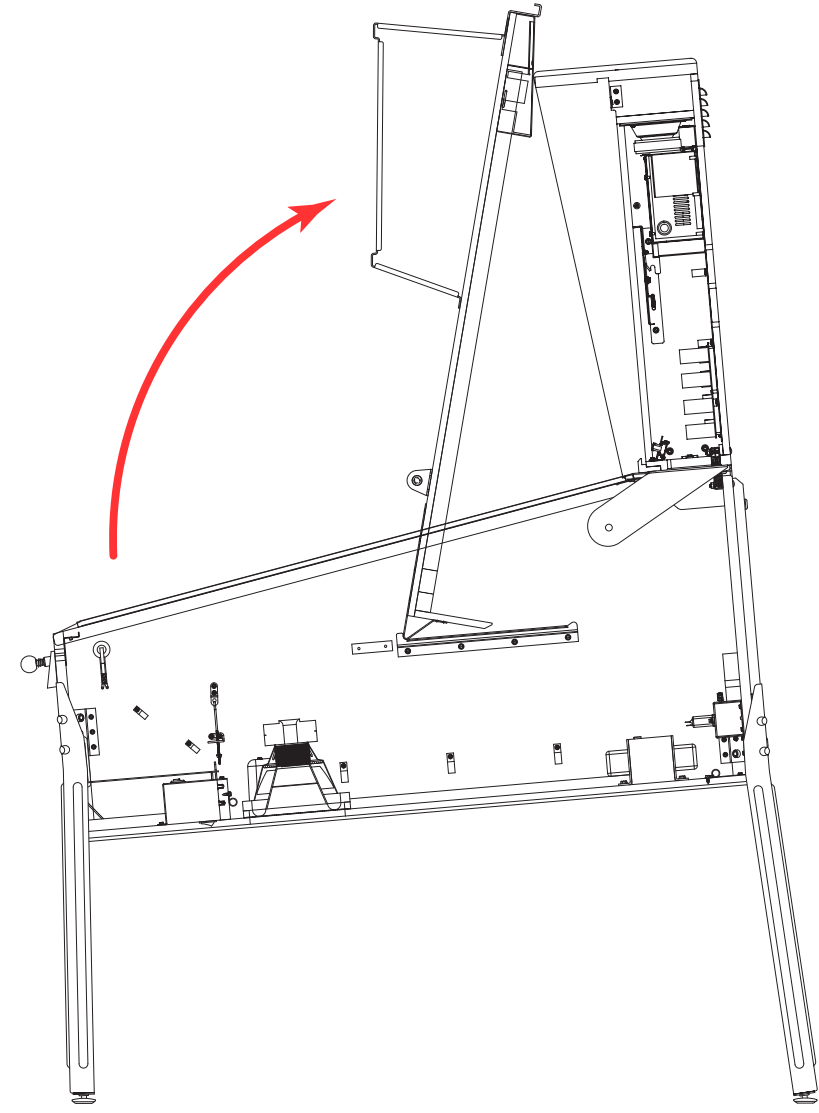

Figure A14. Moving the playfield to position 4.
**15)** Move the playfield from position 3 to 4 (figure A14). Grasp the two playfield support brackets and pull the playfield outward until the playfield support/slide bracket stop is reached; then swing the playfield up, resting the bottom arch against the front of the backbox.